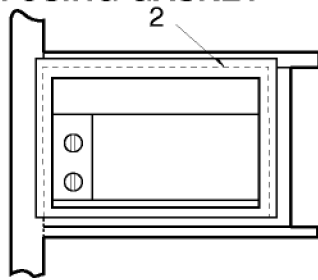

Figure 25
2. If storm window presents interference, fasten a 2" wide wood strip (OUTER SILL) to inner window sill across the full width of the sill. Wood strip should be thick enough to raise the height of the window sill so that the unit can be installed without interference by the storm window frame. See figure 25. Top of wood strip should be approximately 3/4" higher than storm window frame (STORM WINDOW FRAME) or wood strip (OUTDOORS) to help unit condensation to drain properly to the outside.